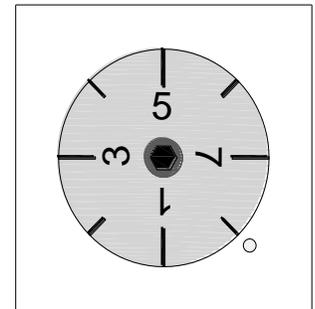

figure 37
The threading dial indicator (27) shown in (fig. 37) is located on the left hand side of the apron. It is used when cutting imperial threads and tells you when to engage the half nut to begin the threading process. The indicator face has eight lines and four numbers printed on the dial. An indicator pin is located at the bottom of the rim. The dial is mounted to a shaft that has a small gear mounted at the opposite end. By loosening a socket capscrew you can pivot the housing to either engage or disengage from the leadscrew. When engaged, the dial will turn as the spindle rotates. If the dial does not turn, re-adjust the housing position.